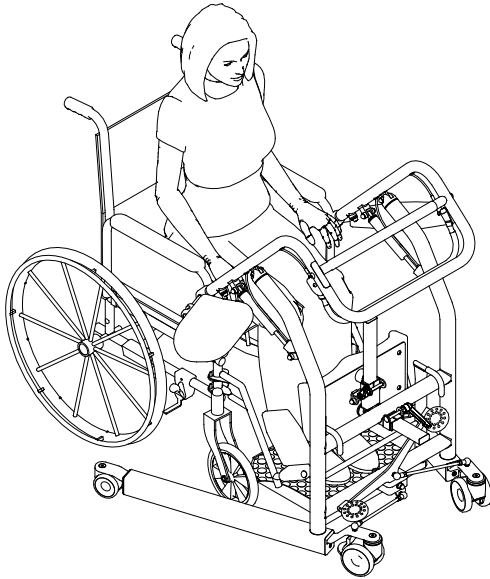

Figure 3
1. ENSURE patient is able to sit in an upright posture and the Vista is able to be positioned in front of the patient as shown (Fig. 3).
2. Move the SEATS out and OPEN the LEGS of the Vista to an appropriate width to maneuver the Vista around a chair or wheelchair (Fig. 3).